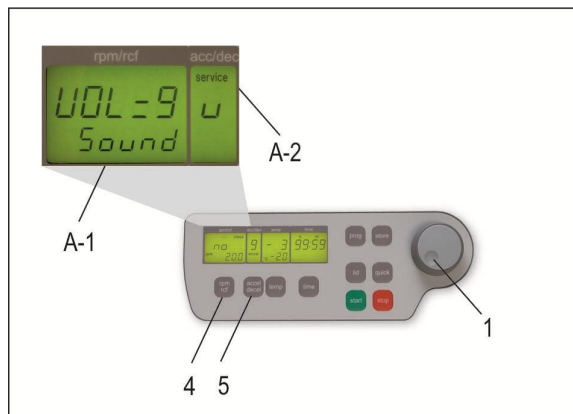

Figure 6
Proceed as described under point 1.8.1 to enter this program mode and then press the key „accel/decel“ (5). In the display „accel/decel“ (A-2) flashes the word „service“. Now select the letter „u“ with the adjusting knob (1). As a result appear in the display „rpm/rcf“ (A-1) the words „Vol=0- 9/Sound“. After pressing the key „rpm/rcf“ (4), you can adjust the desired volume between 0 (low) and 9 (loud) with the adjusting knob (1) (see figure 6).